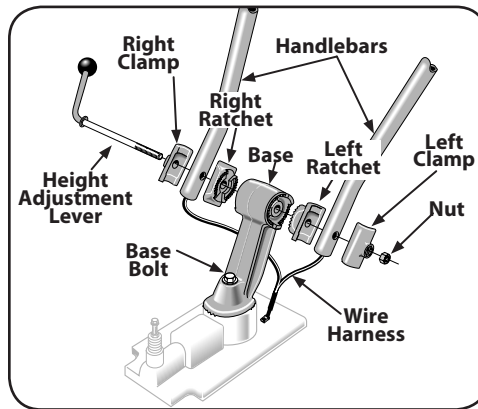

Figure 3-1
1. Disassemble the handlebar assembly. To do this, remove the height adjustment lever by turning the lever in a counterclockwise direction. See Figure 3-1.
2. Place the handlebar ends on either side of the base, with the wire harness toward the rear of the base. See Figure 3-1.
3. Install the height adjustment lever through the right-side clamp, handlebar end, ratchet, and base; then out through the left-side ratchet, handlebar end, and clamp. See Figure 3-1. Secure with the nut, but do not fully tighten.
1. Loosen the bolt on the handlebar base and swing the handlebars out to the right side. See Figure 3-1.